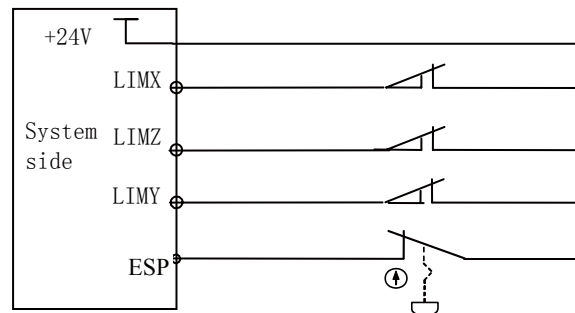

Fig. 2-34B Serial connection between the limit switch and the external emergency stop of each channel
- ② The limit switch is independently connected with the external emergency stop of each channel, and the connection method is shown as the following figure 2-34B: